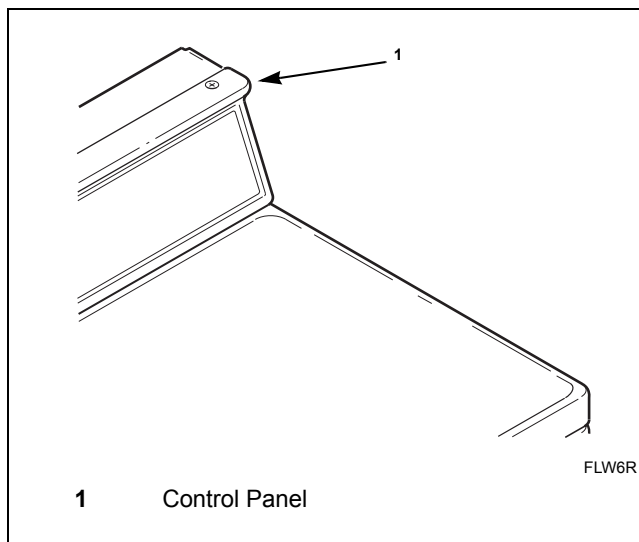

Figure 13
1. Open control panel. Refer to *Figure 13*.